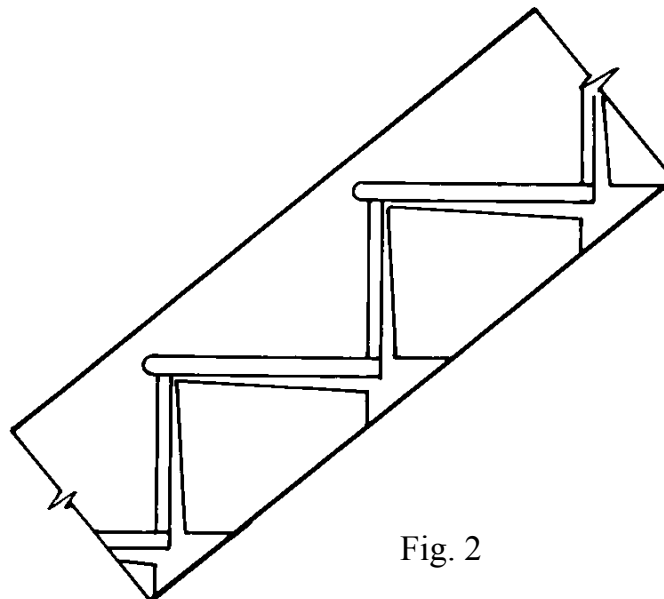

Fig. 2
- (b) Indicate on figure 2 the following :-